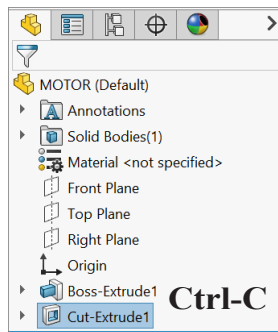

Fig. 11
Step 1. Copy **Cut-Extrude1** . To copy, click **Cut-Extrude1**  in the Feature Manager and use **Ctrl-C**, **Fig. 11**.